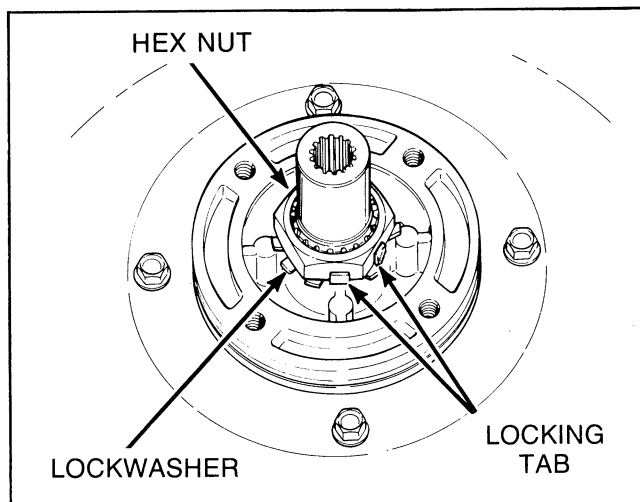

Figure 29
NOTE: When installing lint filter, it is necessary to start the first fastener in the round hole, *Figure 29*. Place the remaining fasteners in their respective holes.
- h. Straighten bent tab(s) on lockwasher, *Figure 29*, then remove hex nut using No. 237P4 Hex Wrench.
- g. Carefully place the new hub assembly on splined transmission tube and install lockwasher and hex nut, *Figure 29*.
IMPORTANT: Torque hex nut down between 40 to 70 foot pounds (54.23 to 94.91 N-m). If torque wrench is not available, tap hex wrench with a hammer until hub turns or until nut will no longer tighten. After nut has been tightened, bend at least two locking tabs on lockwasher into place on hex nut, *Figure 29*.
i. Straighten bent tab(s) on lockwasher, *Figure 29*, then remove hex nut using No. 237P4 Hex Wrench.